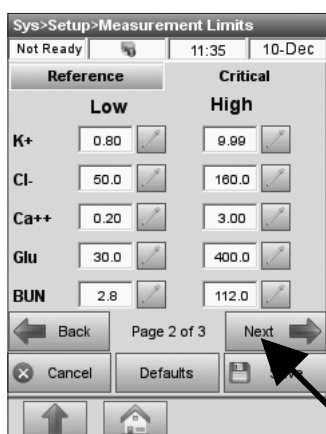
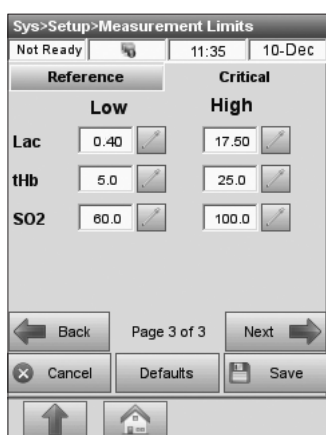

Fig. 3-37 Critical Limits 2
Fig. 3-38 Critical Limits 3
8. Press to access pages 2 and 3 with the remaining parameters (Fig. 3-37 and Fig. 3-38).